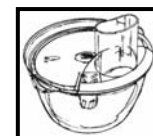

Fig. 11
6. Place the processor inner lid onto the bowl making sure that it is placed correctly onto the bowl. (Fig. 11)